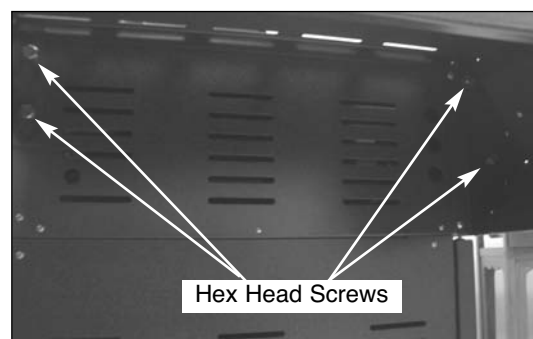

Fig 5
5. Loosen the four (4) hex head screws on the left side of grill head assembly under the left side shelf for approximate 0.5". Then lift and take off the left side shelf and set aside. (See Fig. 5)
23. Attach the left side shelf onto the grill head assembly, and tighten the four (4) screws with a wrench. (See Fig. 5 on page 2)